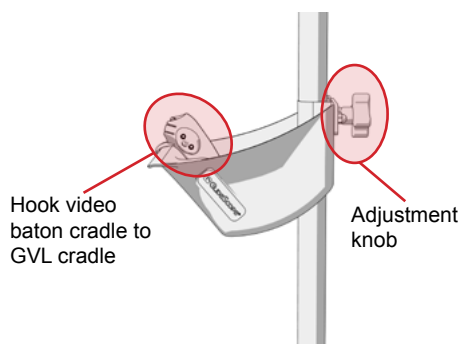

Figure 17: Attach the GVL cradle
2. Close the cradle latch and tighten in place by turning the black cradle adjustment knob clockwise (**Figure 17**).
1. Hook the video baton cradle into the GVL cradle (**Figure 17**).
To attach a GVL cradle to the IV pole, refer to **Figure 17**.